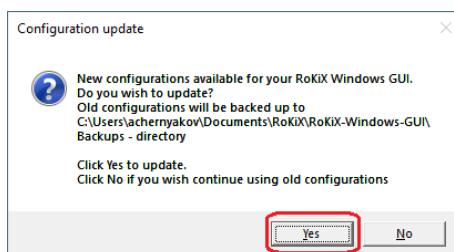

Figure 26. Configuration Updated Popup Window
- ✓ If Configuration update pop-up window is shown, click Yes to download the latest configurations from the server (*Figure 26*).